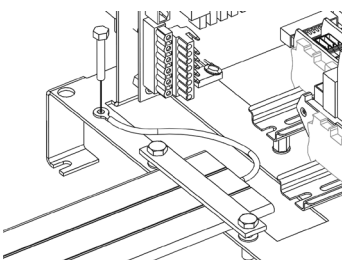

Figure 13.1: Grounding point for travelling cable shielding in car node.
12. Connect the travelling cable's ground wire to the car node. Check the connection of the shielding to the grounding point (Figure 13.1).